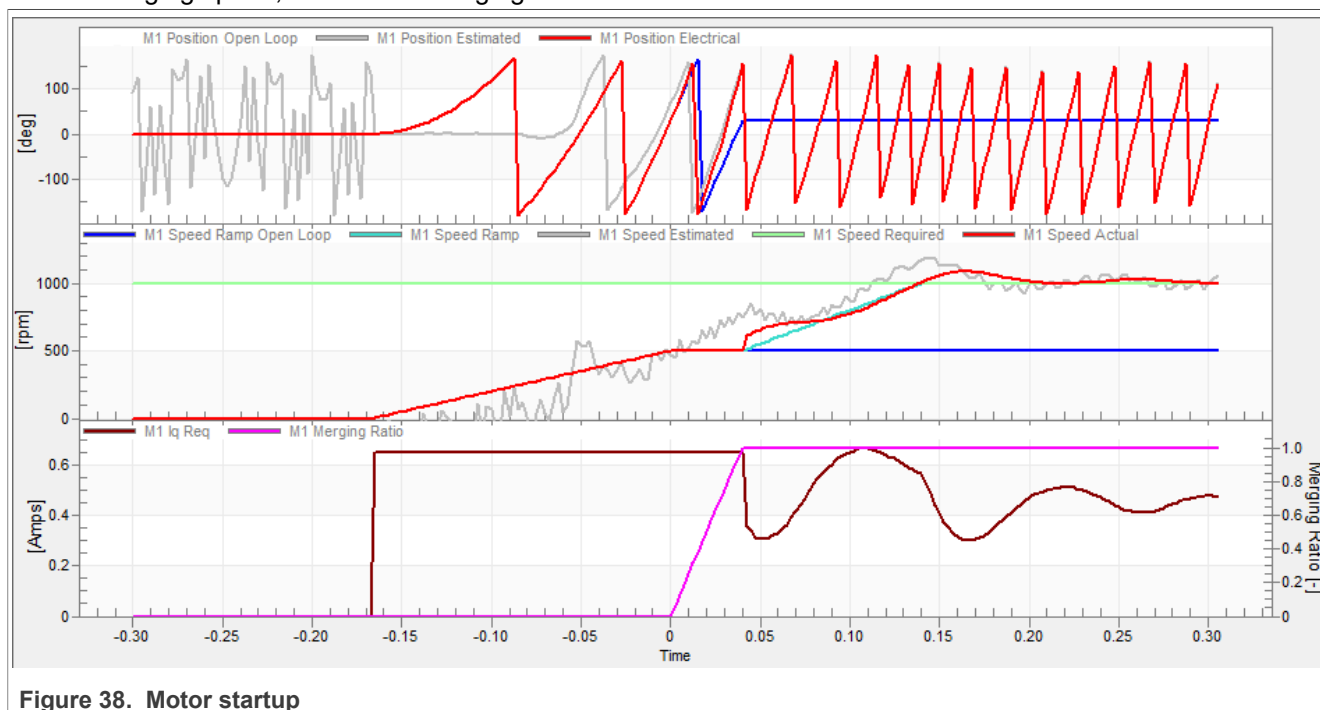

Figure 38. Motor startup
1. The startup process can be tuned by a set of parameters located in the "Sensorless" tab. Two of them (ramp increment and current) are accessible in both tuning modes. The startup tuning can be processed in all control modes besides the scalar control. Setting the optimal values results in a proper motor startup. An example startup state of low-dynamic drives (fans, pumps) is shown in Figure 38.